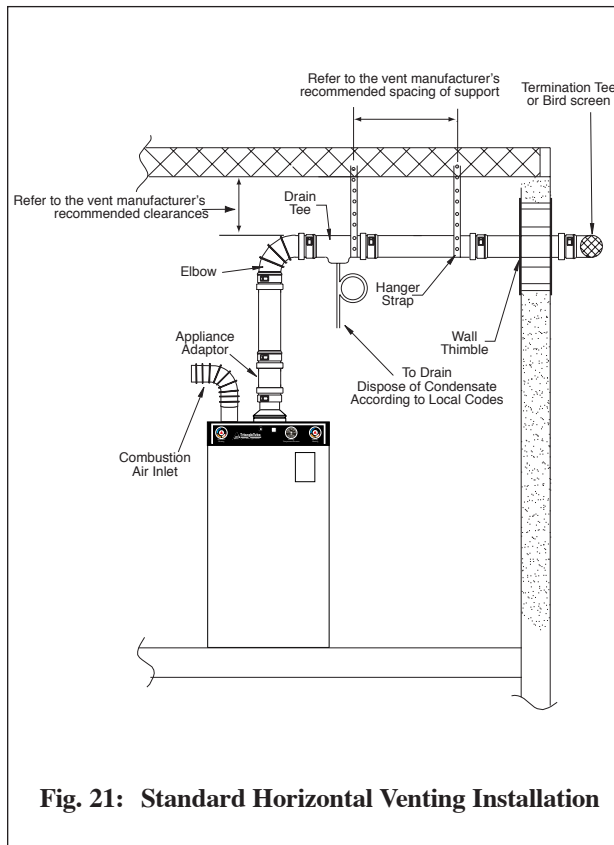

Fig. 21: Standard Horizontal Venting Installation
- a. The vent system must contain a condensate trap located near the unit as shown in Fig. 21 page 34.